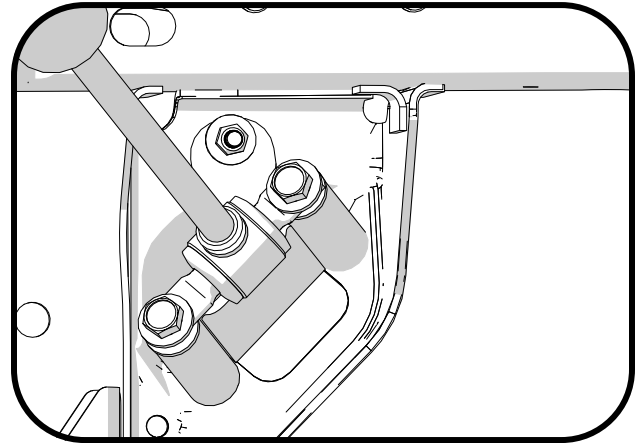

Figure 2
3. Slide the shock bar pin into place. Install the other bolt and torque both M10 bolts to 37 ft-lbs. Tighten the 5/16" bolt. (Figure 2)